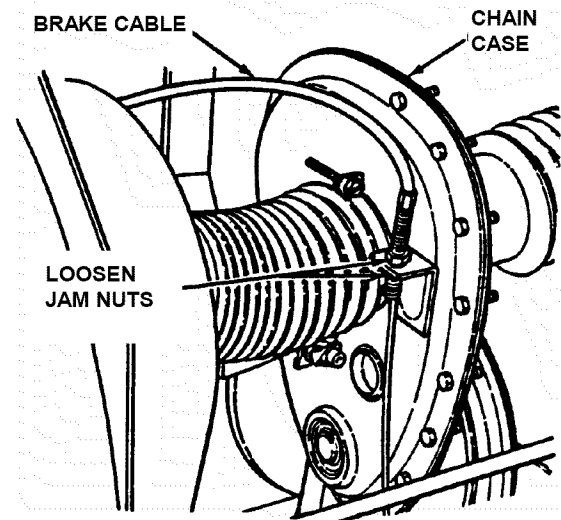

FIGURE 4.10
6. If measurement is not $3/4$ ", loosen the two jam-nuts. See Figure 4.10. Hold the clutch/brake cable to the chain case bracket.